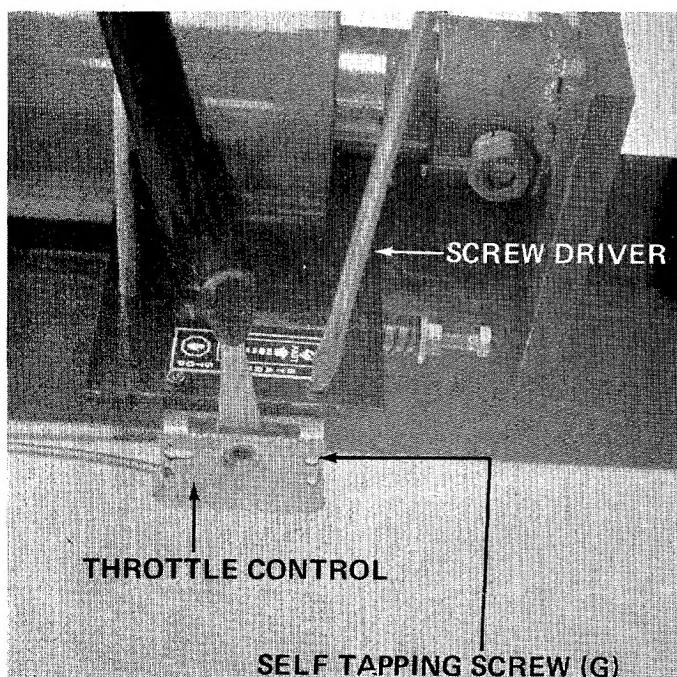

FIGURE 14
14. Place the throttle control in position on beam assembly and secure with two self tapping screws (G). A standard screw driver is required. See figure 14.